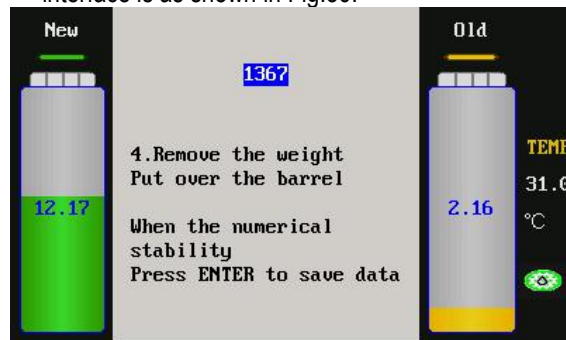

Fig.36
6) When the value displayed on the interface is stable, please press OK key again to save the data. The interface is as shown in Fig.36.